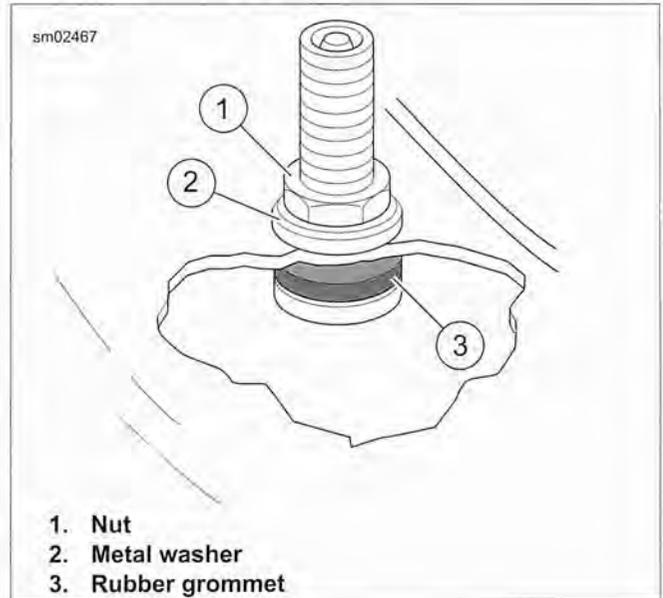

Figure 2-131. Tubeless Tire Valve Stem
1. See Figure 2-131. On tubeless wheels, damaged or leaking valve stems must be replaced. Install rubber grommet (3) on valve stem.
3. Install metal washer (2).